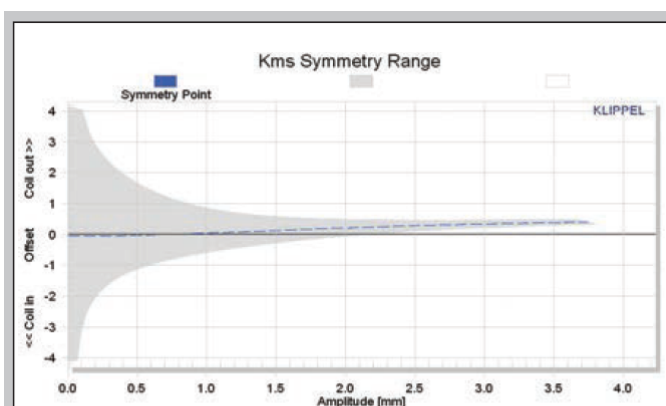
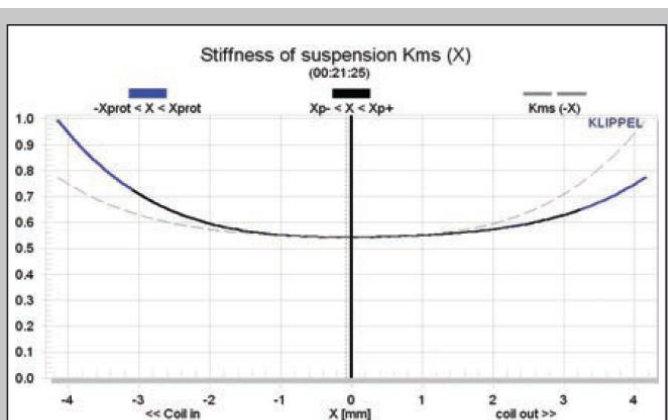

Figure 25: Klippel analyzer  $K_{MS}$  symmetry range curve for the Scan-Speak 5F/8422T01
Figure 24: Klippel analyzer mechanical stiffness of suspension  $K_{MS}(X)$  curve for the Scan-Speak 5F/8422T01
**Figure 24** and **Figure 25** show the  $K_{MS}(X)$  and  $K_{MS}$  Symmetry Range curves for the Scan-Speak full-range driver. The  $K_{MS}(X)$  curve is fairly symmetrical, and also has a very minor forward (coil-out) offset of less than 0.05 mm at the rest position, increasing to likewise not significant 0.22 mm at the physical  $X_{MAX}$  position. I used the Klippel analyzer to calculate the 5F/8822T01's displacement limiting numbers, which were  $X_{BL}$  at 82% ( $Bl$  is 1.8 mm) and the crossover at 75%  $C_{MS}$  minimum was 3.2 mm. The numbers indicated that  $Bl$  is the 5F/8822T01's most limiting factor for a 10% prescribed distortion level.